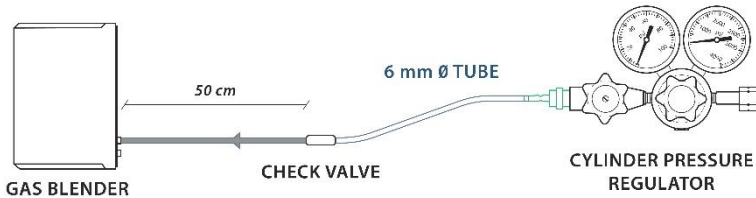

Figure 3
- 3. Check valves (Only for CO2)** - Install the Check valve (provided in the package) along the gas line of CO2 gas source in use. In order to do so, take the free end of the tube previously connected to the pressure regulator and insert it in the check valve through the push-in connector. Check valves allows the gas to flow through them in only one direction. Therefore, the check valves must be installed in the direction of flow sense, i.e. form the cylinder to the Gas blender (Fig. 3). In case of different valves type use, please contact the MCQ INSTRUMENTS support center.